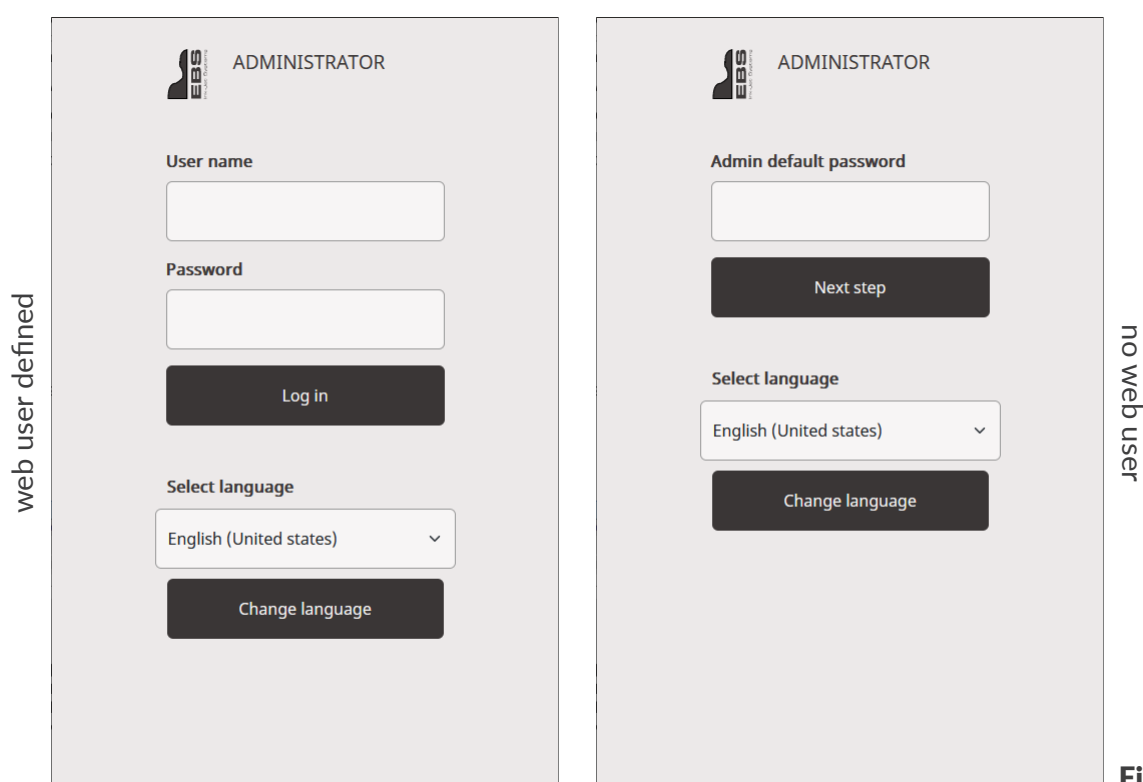

Fig. 7.
The **EBS Web User Interface** login window is displayed. The login window differs depending on whether a so called **web user** is defined in the printer or not (see **Fig. 7**).
2. If a web user is defined in the printer, just log in (see the window on the left in **Fig. 7**).
3. If a web user is not defined, create the web user (see the window on the right in **Fig. 7**). To log in: